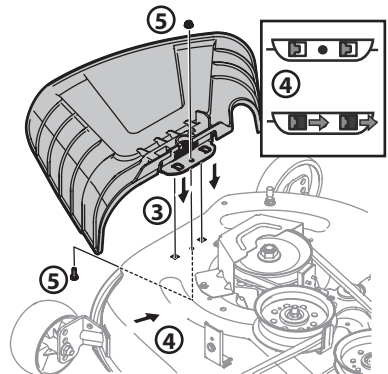

Figure 18
3. Place the chute deflector on the deck, be sure to insert the tabs on the chute deflector into the holes on the deck. See Figure 18.
4. Slide the chute deflector toward the rear of the tractor until the bolt hole in the chute deflector aligns with the hole in the deck. See Figure 18.
5. Secure the chute deflector in place with the flange lock nut and hex screw removed in Step 2. Tighten to 102-124 in-lbs (11.5-14 N-m). See Figure 18. Skip ahead to Setting the Deck Wheels.